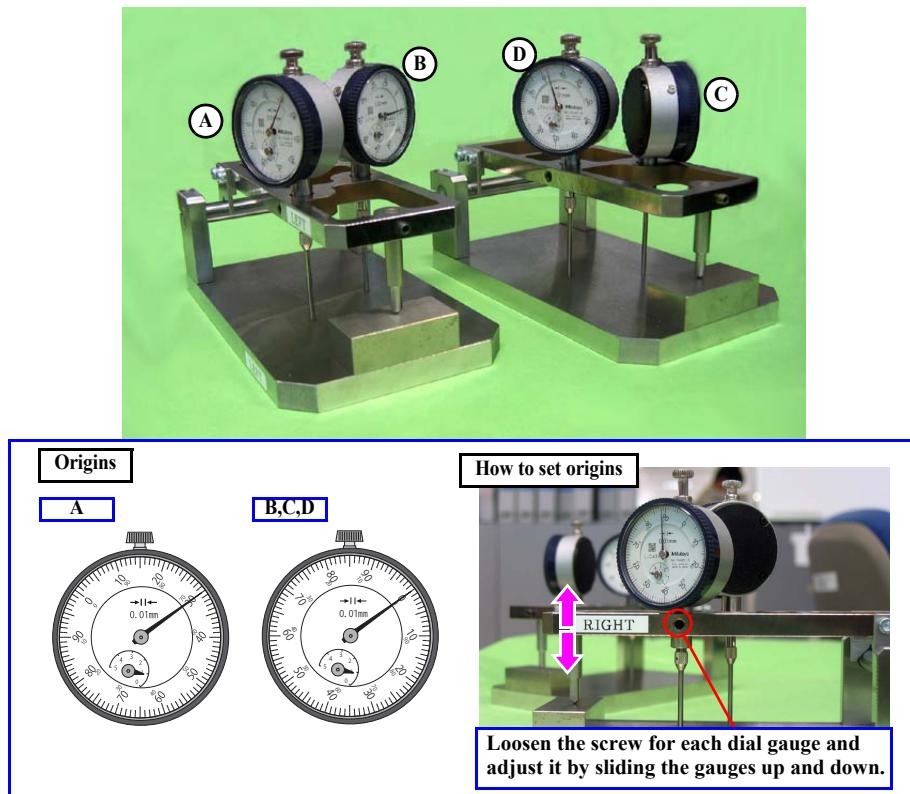

Figure 5-32. Setting the origins of dial gauges
3. Keeping the jig on the fixture, loosen the screws of the jigs with hex wrench, and adjust the jigs until the values on each dial gauge become those shown in Figure 5-32 by sliding the dial gauge up and down.